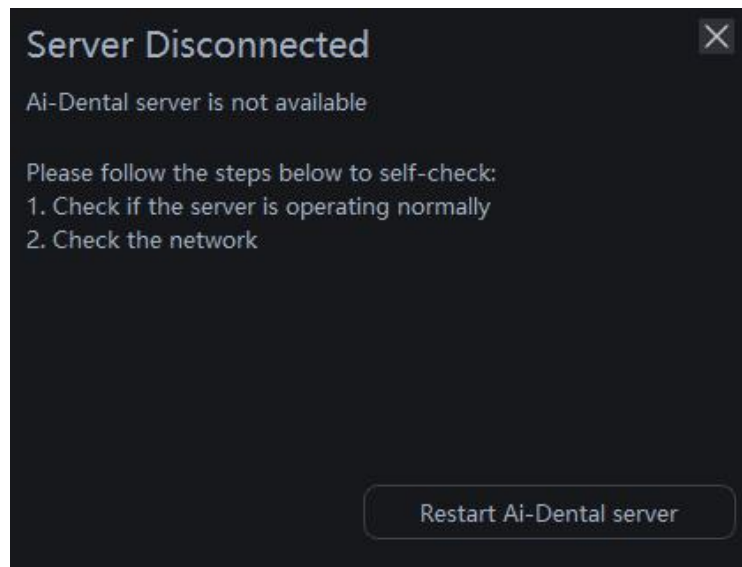

Figure 56
(1) In case of unclear image, please adjust the exposure time first. If repeated adjustment of the exposure time is invalid, you can go to the software “Setting” -> “Device Management” to set the sensor parameters. Please refer to 3.6.5 for specific setting methods.
(2) During the use of the software, when the server is unavailable due to some reasons, the software will enter the server disconnect interface, as shown in Figure 56. At this time, the user can check whether the network is normal or restart the server.